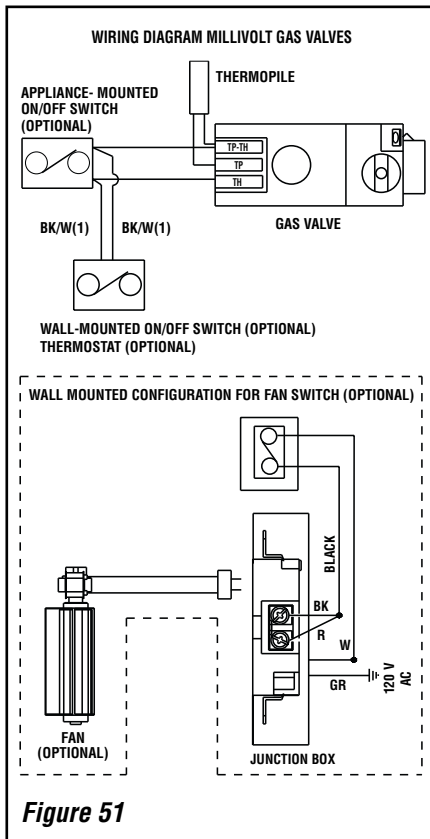

Figure 51
A. Millivolt Wiring (See Figure 51) –
Install Optional Control Switch (OFF/ON wall switch, wall thermostat or remote control receiver). Install snap bushing (provided in Electrical Outlet Kit) into control switch knockout in side panel (see *Figures 17 through 20 and 53*). Wire the optional control switch within the millivolt control circuit (as shown in *Figure 51*) using the 15 feet of 2 conductor wire supplied (route wires through the snap bushing to the optional control switch). Mount the optional control switch or wall thermostat in a convenient location on a wall near the fireplace.
4. Wire and install the outlet receptacle to junction box, then install into the chosen corner of the control compartment as shown in *Figures 51, 52 and 54*.